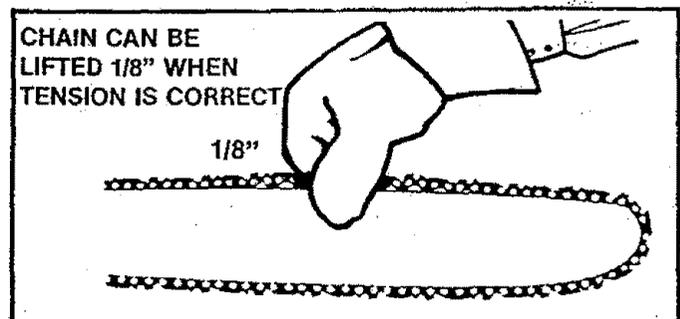

Figure 11
- b. Check the tension by lifting the chain from the Guide Bar at the center of the bar. Figure 11.
- Check the tension by lifting the chain from the Guide Bar at the center of the bar. Figure 11.